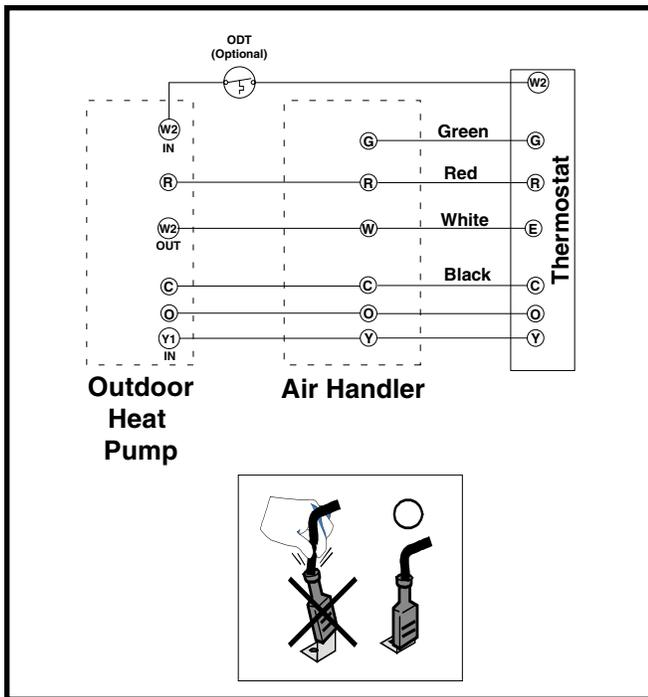

Figure 4. Typical Thermostat Connections
- Thermostat connections should be made in accordance with the instructions supplied with the thermostat and the indoor equipment. A typical installation with a heat pump thermostat and air handler is shown in Figure 4 \(page 6\).